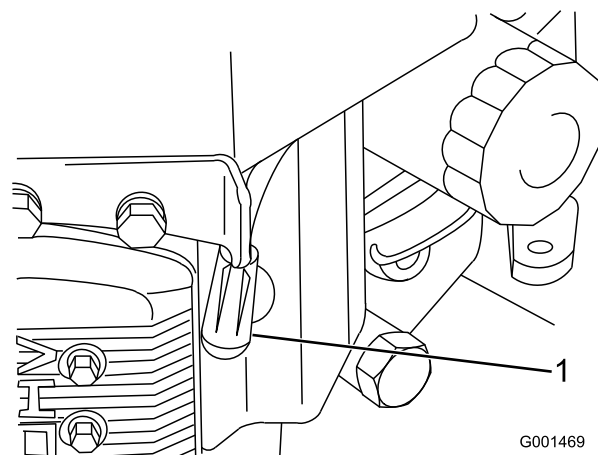

Figure 30
3. Disconnect the wires from the spark plugs (Figure 30).